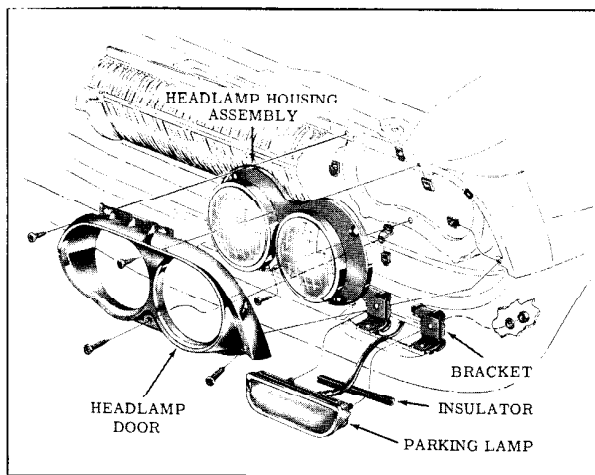

Fig. 11-7 Headlamp Assembly
2. Remove headlamp door attaching screws and remove headlamp door. (Fig. 11-7)
Remove the headlamp door (Fig. 11-7), then remove fender to extension nuts and screw. Install nuts and screw and check clearances as they are tightened.